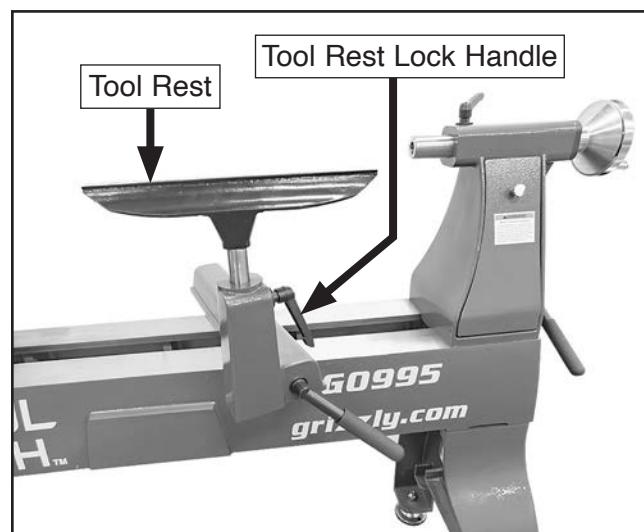

Figure 53. Tool rest controls.
1. Loosen tool rest lock handle (see **Figure 53**).
1. Loosen tool rest lock handle and remove tool rest (see **Figure 53**).